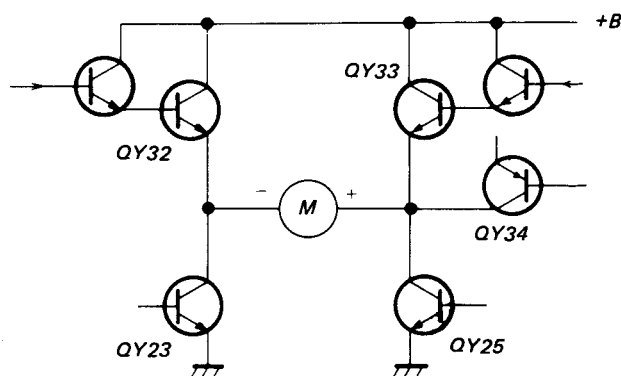

Fig. 3-62 Capstan Motor Drive Circuit
Slow Circuit (Fig. 3-62, 63)
This delay output is obtained from Pin 9 (Q) of IC Y02 and differentiated by CY15, RY41 and positive pulses only are fed to Pin 8 (preset terminal) of IC Y05 through DY04 and causes Pin 13 (Q) to go to high level. Pin 13 (Q) output is fed to Pin 12 (A) of IC Y03 and generates pulses in Pin 9 of IC Y03 with width determined by CY05, RY26, and RY58. This is used as the brake pulse to apply reverse voltage on the motor and cause the motor to stop suddenly. The drive output from the Pin 6 of IC Y03 is fed to Pin 10 (clear terminal) of IC Y05 and prevents Pin 13 from going to high level and also prevents the generation of brake pulses while drive pulses are emitted even if there is an input to Pin 8 of IC Y05. The output (\bar{Q}) of Pin 9 of IC Y03 is connected to Pin 3 of IC Y03 and prevents the generation of drive pulses while brake pulses are being generated. Simultaneous generation of drive pulses and brake pulses are prevented in this manner and thus prevents overcurrents in the drive output transistor. The drive circuit is constructed as shown in Fig. 3-62 and, during drive, QY33 and QY23 are turned on to cause the motor to turn in the correct direction. QY23 only is on during the period from the end of the drive pulse to the start of the brake pulse and no voltage is therefore impressed across the motor terminals.